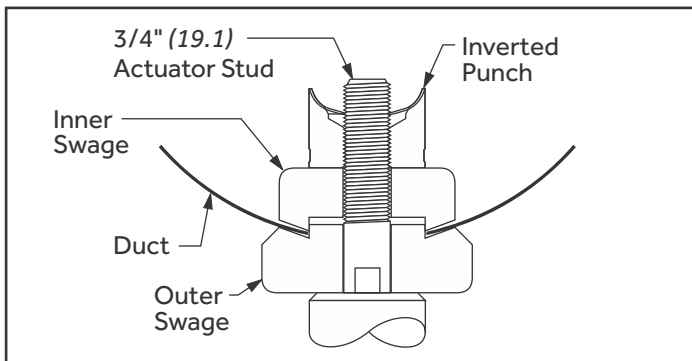

Fig. 40: Swage Configuration
4. Swage Hole: Slide the 60mm outer swage tool (for 2" (50.8) test port) onto the 3/4" (19.1) actuator stud. Insert the actuator stud and outer swage tool into the 60mm hole (for 2" (50.8) test port). From inside the duct, slide the matching inner swage tool onto the actuator stud. Invert and thread any one of the three punches onto the actuator stud (cutting surfaces facing away from the inner swage tool) until the inner swage tool, the duct and the outer swage tool are snug. Operate the hydraulic actuator to compress the swage tools together to form the swage. Loosen and remove the swage tool. (Fig. 40)